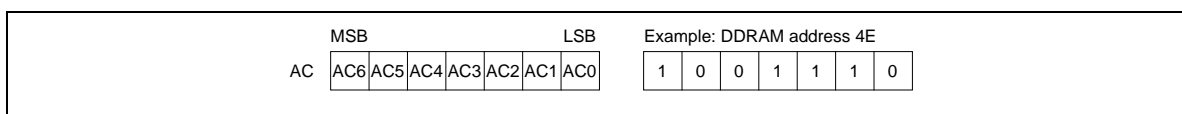

Figure 1 DDRAM Address
The DDRAM address (A_{DD}) is set in the address counter (AC) as a hexadecimal number, as shown in Figure 1.